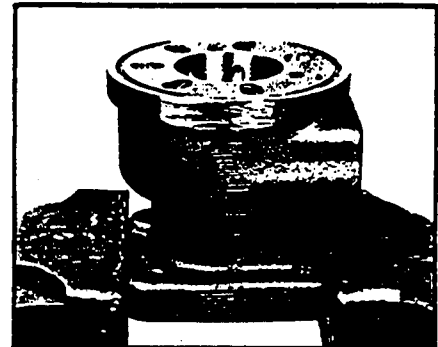

Figure 39
9. Place housing (15) assembly into a soft-jawed vise with coupling shaft bore down, and clamp the vise jaws against the edges of the mounting flange. SEE FIGURE 39.
1. Place housing (15) in a vise per MAF motor assembly procedure #9 and FIGURE 39 (Page18).